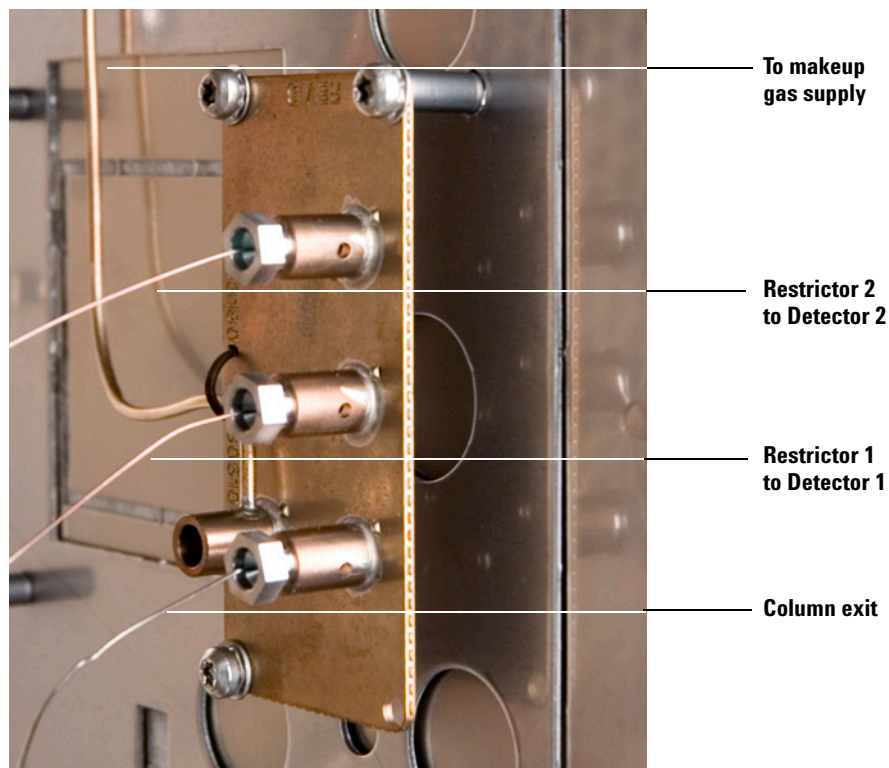

Figure 15 Restrictor and column connections
- 1 Connect the restrictors to the connectors on the splitter (Figure 15). Finger-tighten until just snug, then tighten with a wrench an additional 15° (Figure 16). Install the back restrictor first.